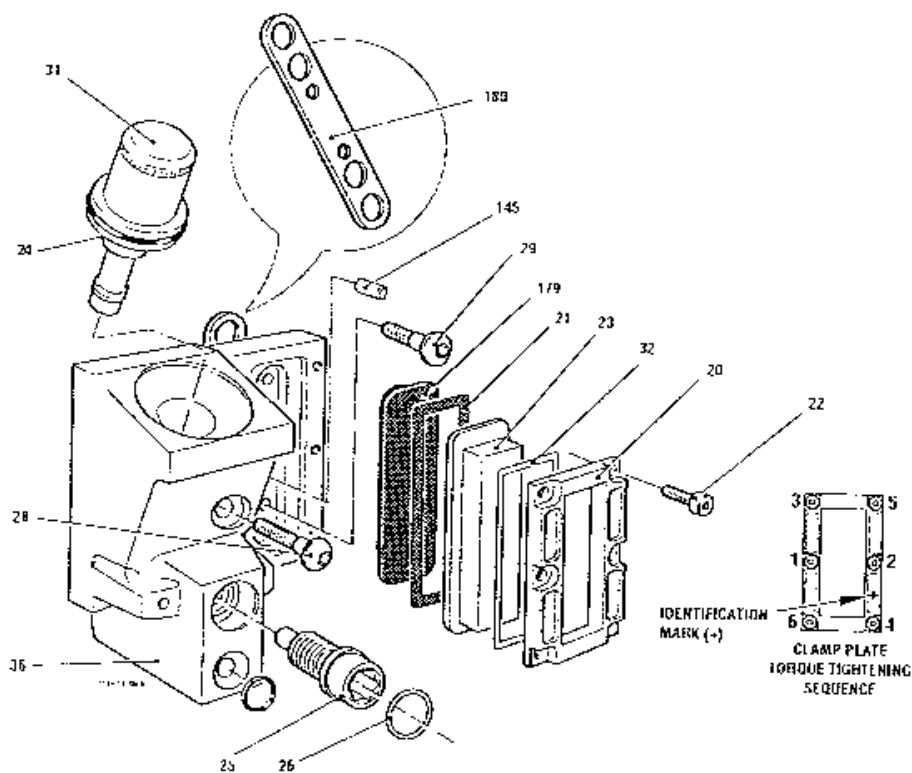
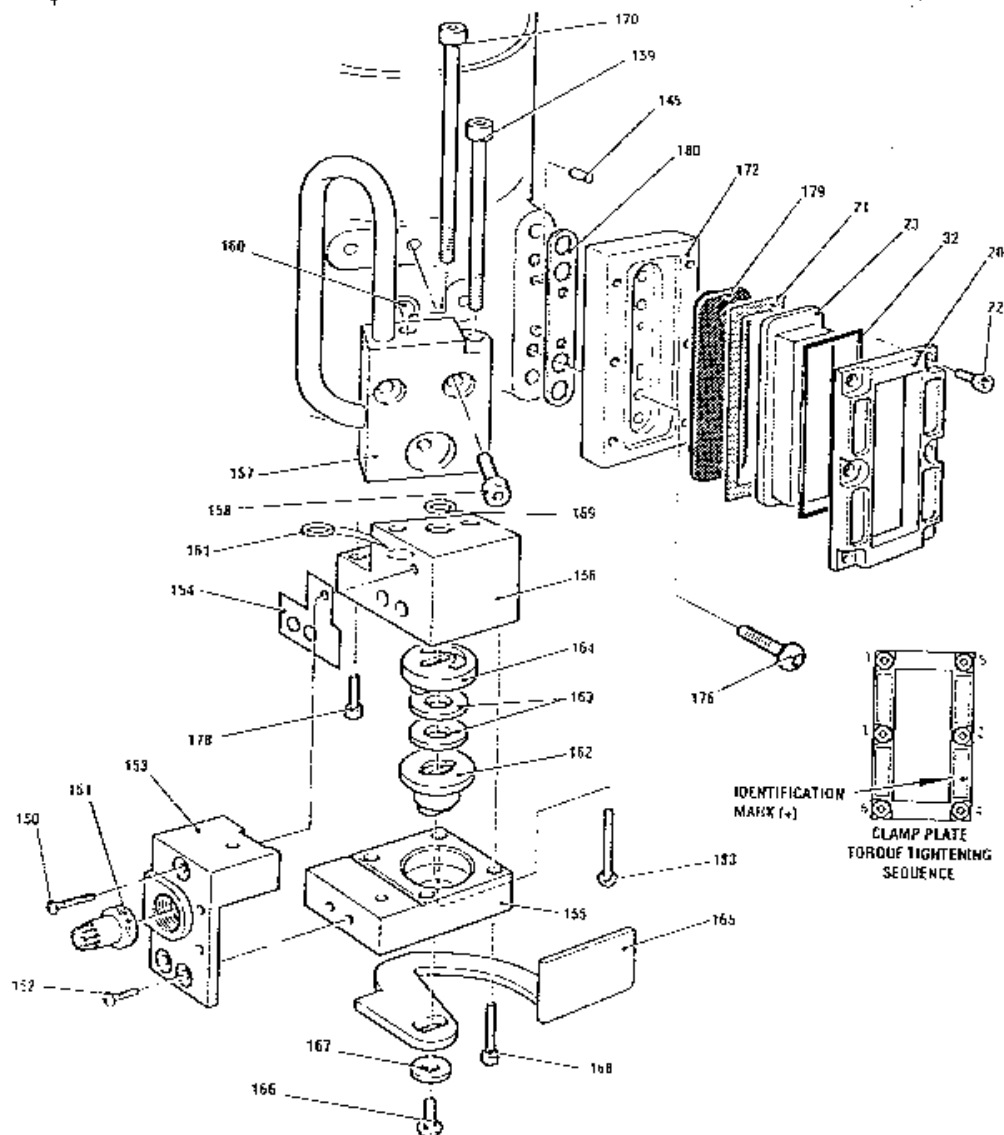

Fig. 3.20 Screw Cap Filler Assembly
Fig. 3.22 Keyed Filler Body Assembly
3.8.1 Screw Cap Filler Assembly (Fig. 3.20)
- 1 Fit a new washer (26) onto a new drain plug (25)
- 2 Screw the drain plug assembly into the filler body (36), using the hexagon end of the filler plug (31).
- 3 Fit a new seal (24) onto the filler plug (31), using Tool No. 2802-8002-000. Ensure that two dowels (145) are fitted into the dowel holes in the sump, then fit a new seal (180) onto the two dowels.
- 4 Fit the filler body (36) to the sump using the two screws (29) and one screw (28). Torque tighten to 2.6 Nm.
- 5 Fit the back plate (179), ensuring that the small hole is at the bottom, and fit the new
Caution: When fitting the clamp plate (20), loosely fit the six screws (22), then gradually tighten them in the sequence shown in Fig. 3.22.
1. Referring to Fig. 3.22, insert the clamp screw (151) into the bridge piece (153) and then invert the vaporizer onto its dial.
2. Position the keyed filler on to the sump and secure the key filler assembly to the base of the sump assembly with one screw (183) through the lower block (155) and valve block (156) and one screw (178) through the valve block (156). Fit the top block (157) to the sump assembly with the two screws (158). Torque tighten the screws (158) to 2 Nm and then torque tighten screws (183) and (178) to 2 Nm.
3. Ensure that two locating dowels (145) are fitted in the dowel holes in the sump, then fit the seal (180) to the two dowels and secure the window body (172) to the sump assembly with the two screws (176). Torque tighten to 2 Nm.
4. Fit the back plate (179) into the window body (172) with the small hole of the back plate nearest to the base. Fit a new window seal (21) inside the window body (172).
5. Fit the sight glass on the window seal in the window body and attach a new sight glass seal (32) around the periphery of the sight glass (23).
Caution: When lifting the clamp plate, loosely fit the six screws (22), then gradually tighten them in the sequence shown in Fig. 3.20. Torque tighten the screws in the sequence shown on Fig. 3.22 to 1.0 Nm.
Note: The latest type clamp plate has an identification mark (+) as illustrated in Fig. 3.22